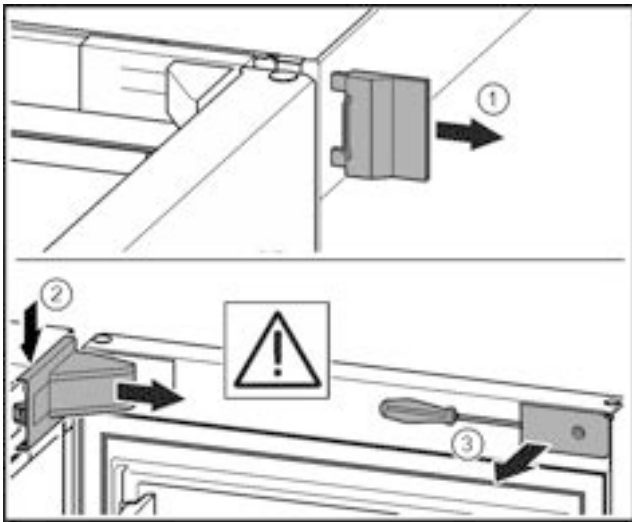

Fig. 11 \*
- ▶ Remove the outer cover. Fig. 11 (1) \*
- ▶ Disengage and release the bearing bracket cover. Remove the bearing bracket cover. Fig. 11 (2) \*
- ▶ Unlatch the panel with a slotted screwdriver and swivel it to one side. Fig. 11 (3) \*